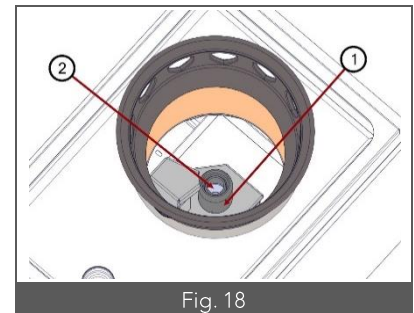

Fig. 18
- 1- Remove the burner head (Fig. 18 - Item 1)
- 2- Remove the support fitted to the burner pipe (Fig. 18 -Item 2).